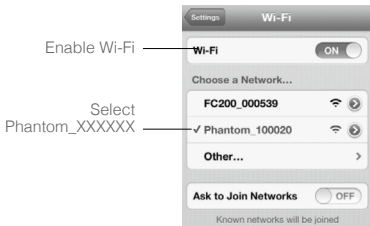

Figure 45
- (1) Power on the Remote Control and the Range Extender.
- (2) Power on the Phantom 2 Vision+.
- (3) Enable the Wi-Fi on your mobile device; wait for about 30 seconds, and then select "Phantom_XXXXXX" from the Wi-Fi network list (Figure45).